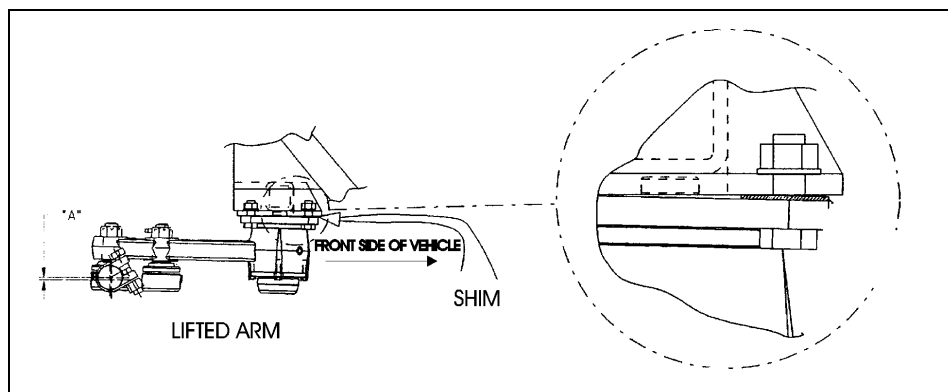

FIGURE 10
14. Install shim on front side of vehicle to lift the arm (Fig. 10).